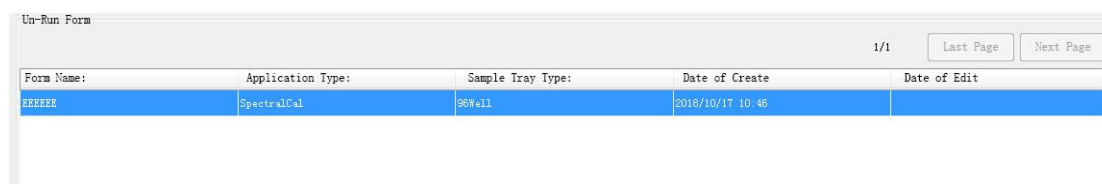

Figure 23. Unconnected Forms
(4) Click the "OK" button, and the name of the new form and the corresponding information will be displayed in the column of "Unconnected Form". As shown in Figure 23.